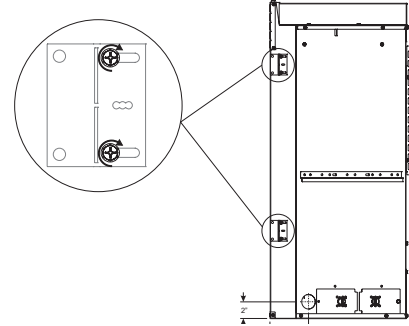

Figure 32
4. Loosen but do not remove the eight screws securing the nailing flanges to the firebox. See **Figure 32**.